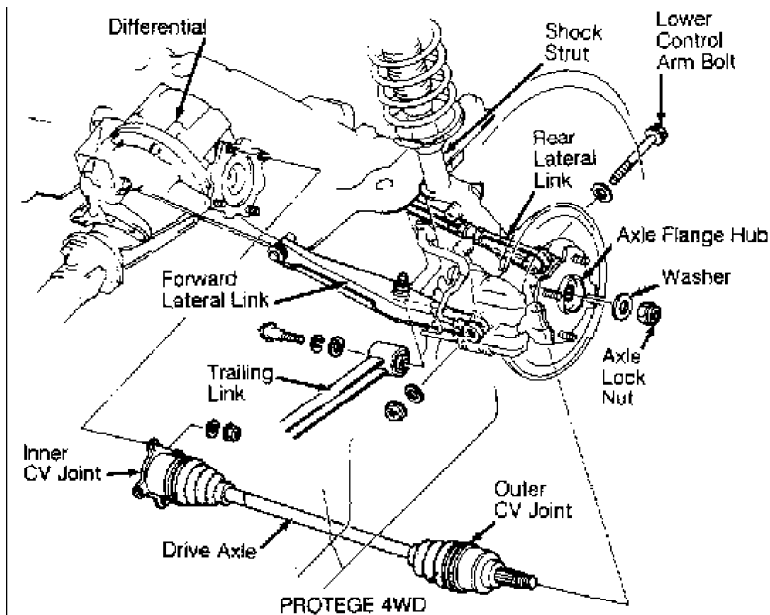

Fig. 2: Removing Rear Drive Axle (Protege 4WD)
2) Remove lower lateral links/control arm(s) bolt from knuckle/hub assembly. Remove trailing link mounting bolt from knuckle/hub assembly. Pull knuckle/hub assembly outward and remove inner CV joint from differential flange. Using soft-faced hammer, tap axle from outer axle flange hub assembly. Remove axle lock nut and washer. If axle is stuck in hub, use puller and press to remove axle from hub. See Fig. 2.
1) Raise vehicle and support with safety stands. Remove wheel assembly. Remove axle lock nut and washer. Remove brake caliper. Mark brake disc and hub for reassembly reference and remove disc from hub. See Fig. 2.